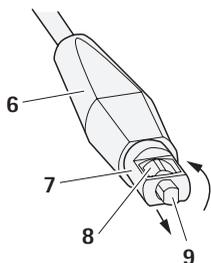

Fig. 2 Dismounting the pushing rod
- ▶ Turn nut **8** counterclockwise until the pushing rod **9** protrudes from the end of the handle **6** by approximately 3 mm, see Fig. 2.